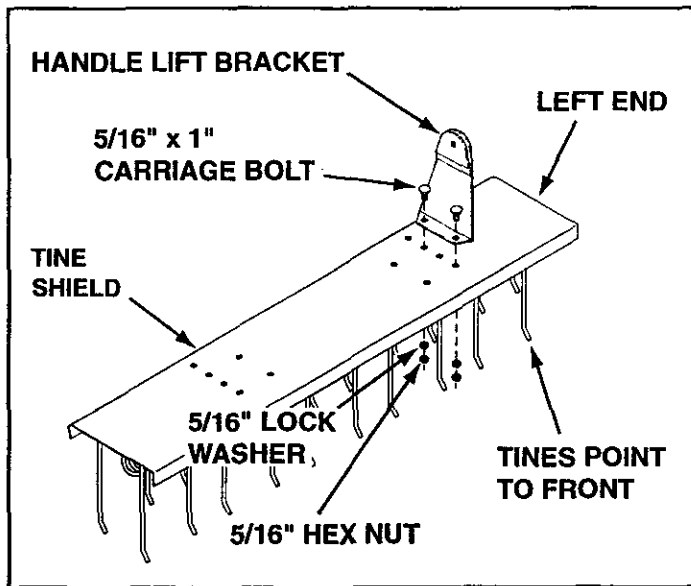

FIGURE 1
- Assemble handle lift bracket to forward set of holes on left end of tine shield. Use two 5/16" x 1" carriage bolts, 5/16" lock washers and 5/16" hex nuts. **Tighten.** See figure 1.